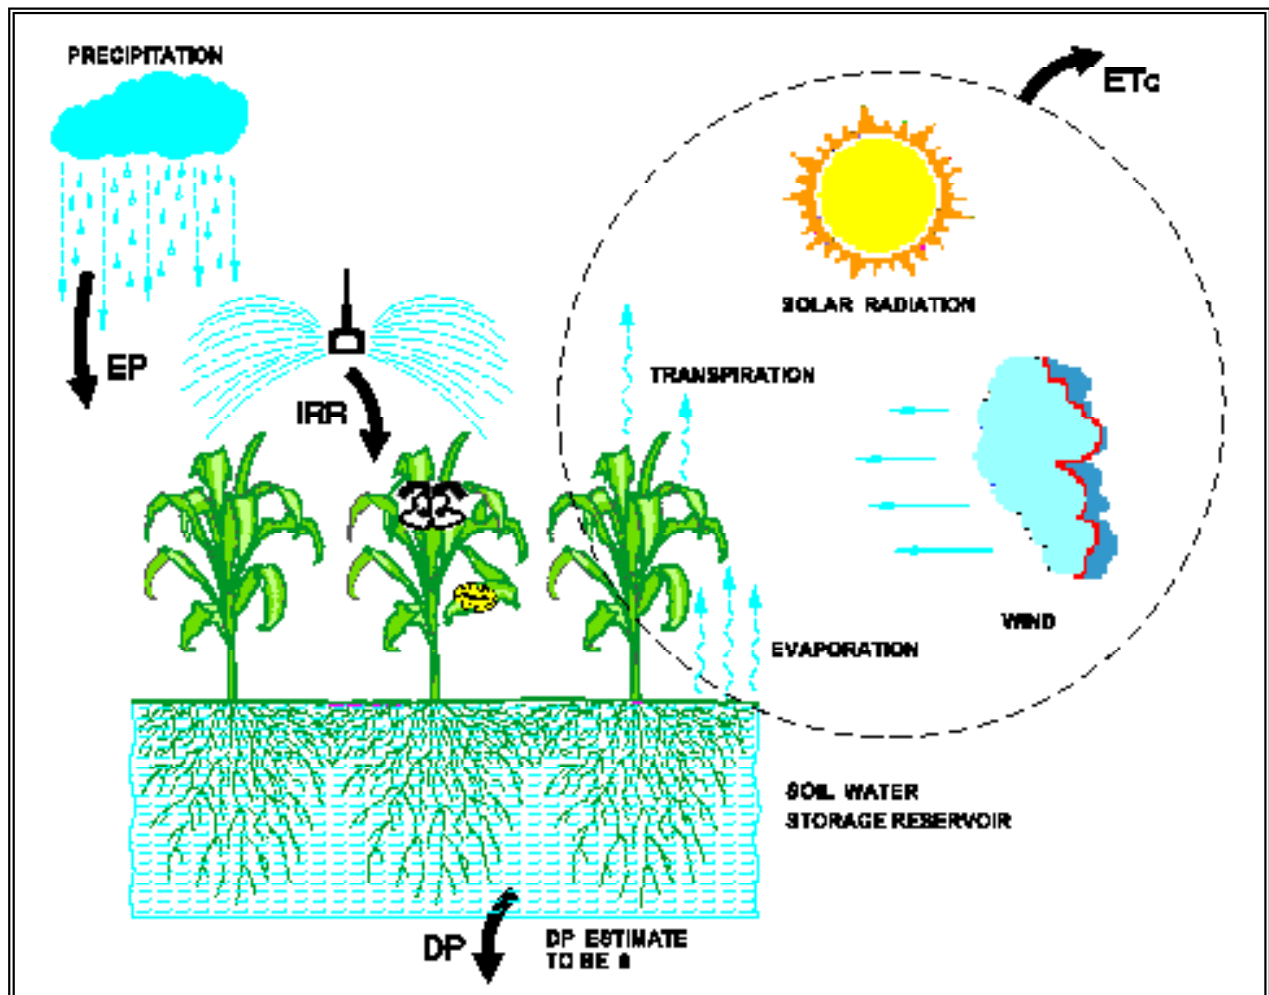

Figure 1 Crop Water Balance
Using a water budget to schedule sprinkler irrigation systems is similar to balancing a chequebook. The plant's soil water storage reservoir can be considered as a bank. This reservoir can hold a limited amount of water that is useful for the crop. Adding too much water to the soil reservoir will mean water loss due to deep percolation (DP) and/or runoff. The crop evapotranspiration (ET_c), or the crop's daily water withdrawal, is the crop's daily water withdrawal. Irrigation (IRR) and effective precipitation (EP) are deposits. This water budget method works well with a computer spreadsheet that allows the daily reference ET (ET_o), precipitation and irrigation amounts to be accounted for irrigation scheduling. Figure 1 below shows the schematics of the water budget method for scheduling sprinkler irrigation.